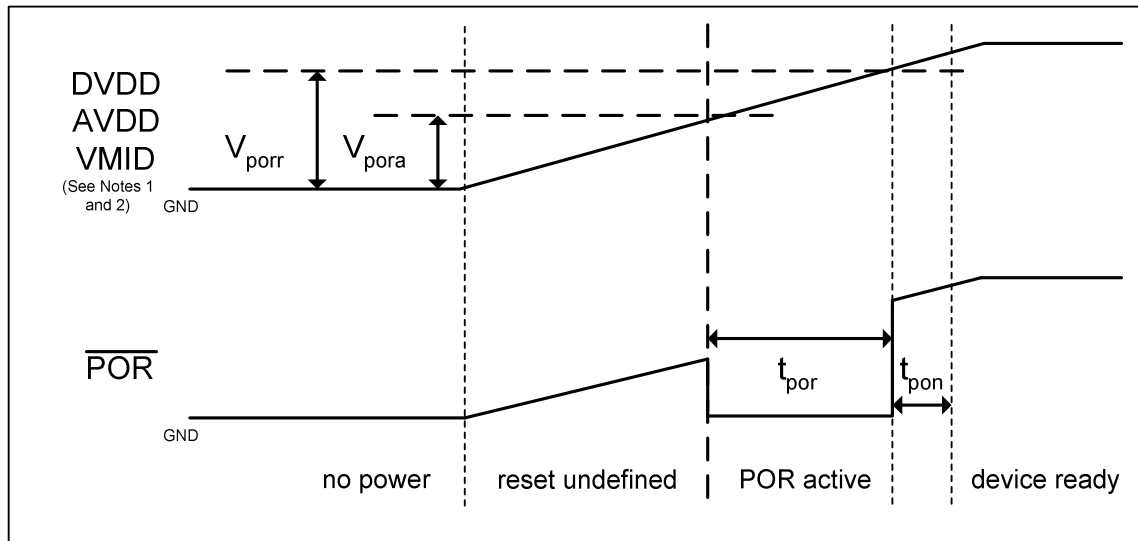

Figure 10 Power Supply Timing Requirements – Power-on
- POR is activated when DVDD or AVDD or VMID reach their stated V_{pora} level (Figure 10)
- POR is only released when DVDD and AVDD and VMID have all reached their stated V_{porr} levels (Figure 10).